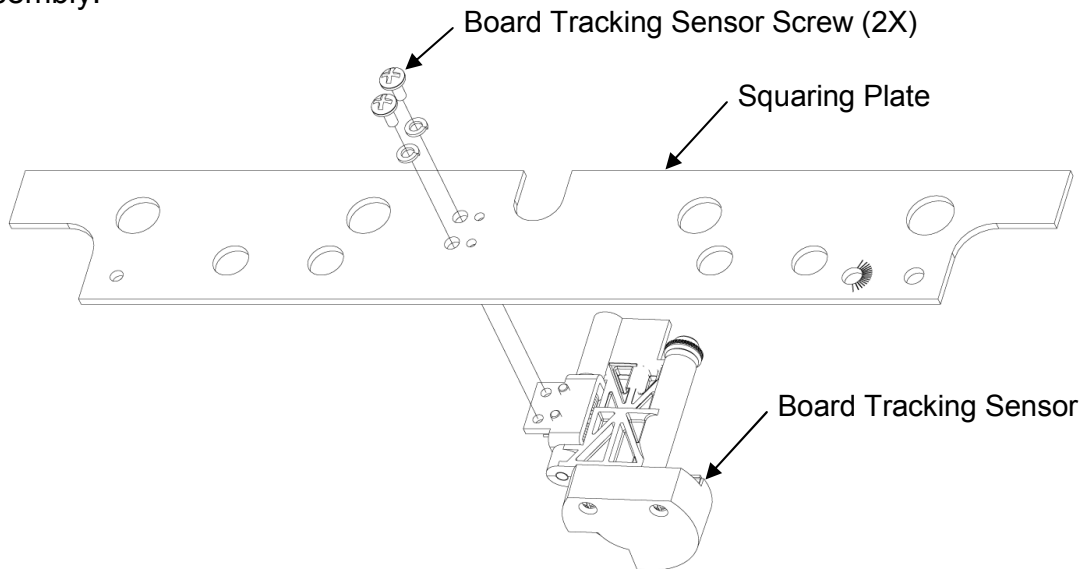

FIGURE 13: SQUARING PLATE ASSEMBLY
25. **Assemble the two split ring washers onto the board tracking sensor.** Place the two small split ring washers (included in the belt package) onto the protruding pins of the board tracking sensor. Reassemble the board tracking sensor to the squaring plate as shown in Figure 13.